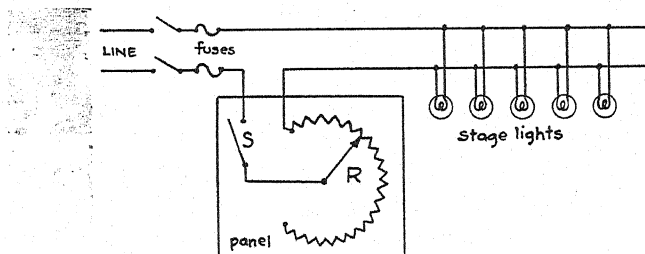

FIG. 9. Stage-lighting-circuit controls.
17. Controlling Current Flow. Switches and rheostats offer a means for completely controlling the amperage, at will. Consider such a circuit as shown in Figure 9, where a scheme is diagramed for controlling stage lights in a theater.